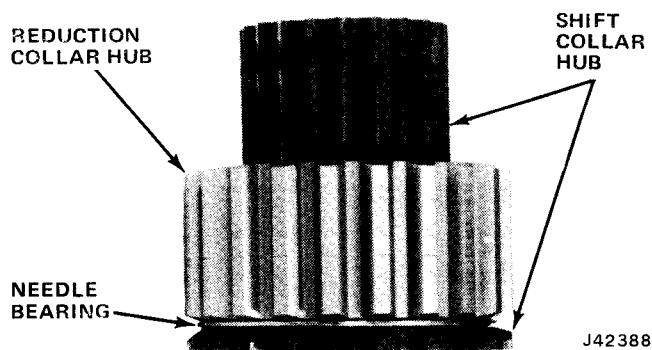

Fig. 8-37 Needle Bearing and Reduction Collar Hub Assembled with Shift Collar Hub
(22) Install needle bearing and reduction collar hub on shift collar hub (fig. 8-37).